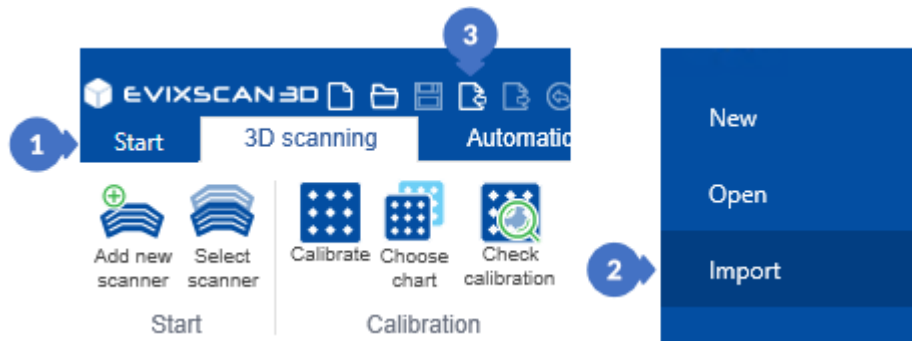

Figure 194. Importing files
The second way to import files is the *Import* button (3) (Figure 194) with a paper sheet icon with an arrow pointing towards the sheet. Clicking this button opens the same window as in the case of the *Import* button (2) from the *Start* menu.